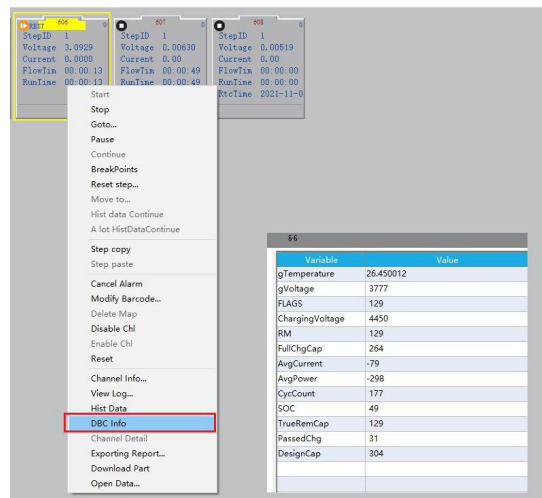

Figure 8-27 DBC Information
2.)After the startup, right-click on the channel and you will see the DBC information column. Click **DBC info** to view the real-time DBC information, Figure 8-27.